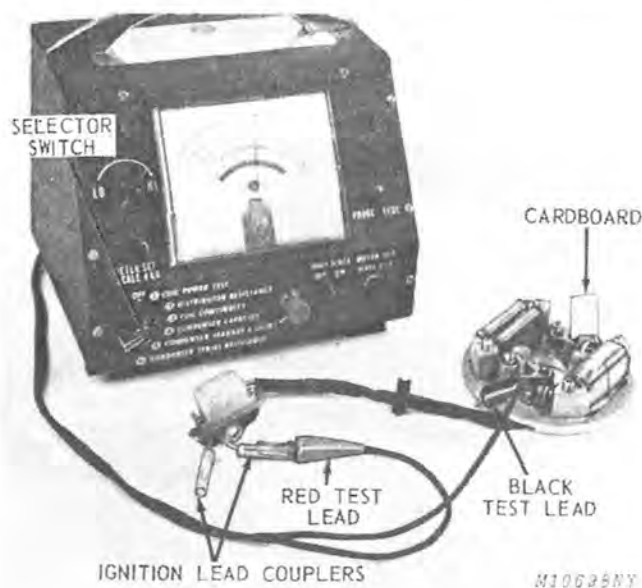

Fig. 18-Ignition Generating Coil Resistance Test
1. Turn selector switch to position No. 2 — Distributor Resistance, Fig. 18. "Zero" meter on right-hand side of scale with adjustment knob.
2. Connect red test lead to white ignition lead coupler and black test lead to stator, Fig. 18. Place cardboard between No. 1 breaker points to insulate, Fig. 18.